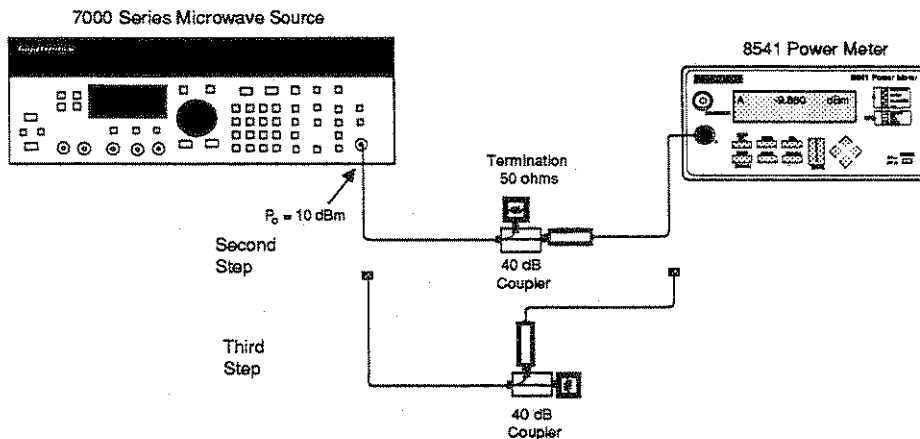

Figure 9. Determining Coupler Coefficient and Insertion Loss - Single Channel.
3. Connect coupler, 50 ohm termination, and power sensor as shown in the "Second Step" of Figure 9.